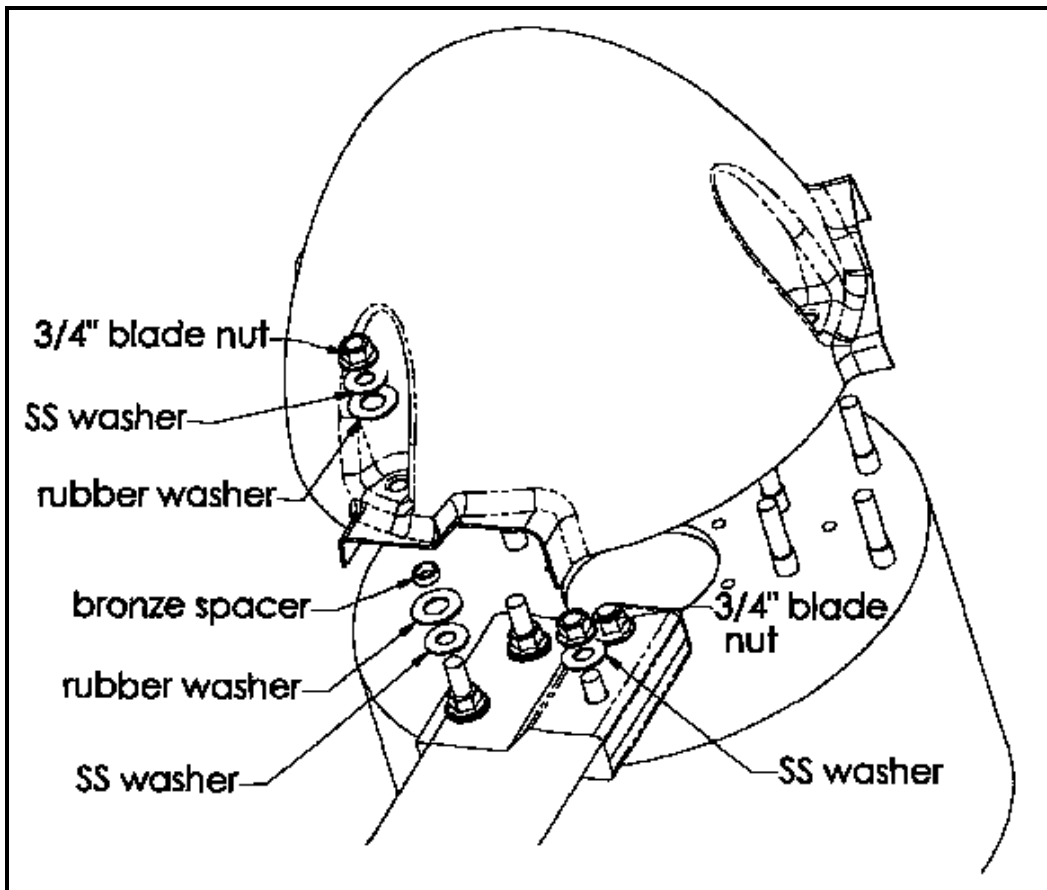

Figure 22. Excel Blade & Spinner Attachment
16. Attach the three blades to the powerhead as shown in **Figure 22**, with the hardware provided in Blade and Spinner Hardware Kit HK0003. A 1-1/8" deep socket and torque wrench will be required. Follow the sequence of steps below. Note that at least two workers are needed.
17. Attach the spinner to the powerhead as shown in **Figure 22**, making sure that all hardware is ordered and positioned properly. The recommended procedure is as follows: